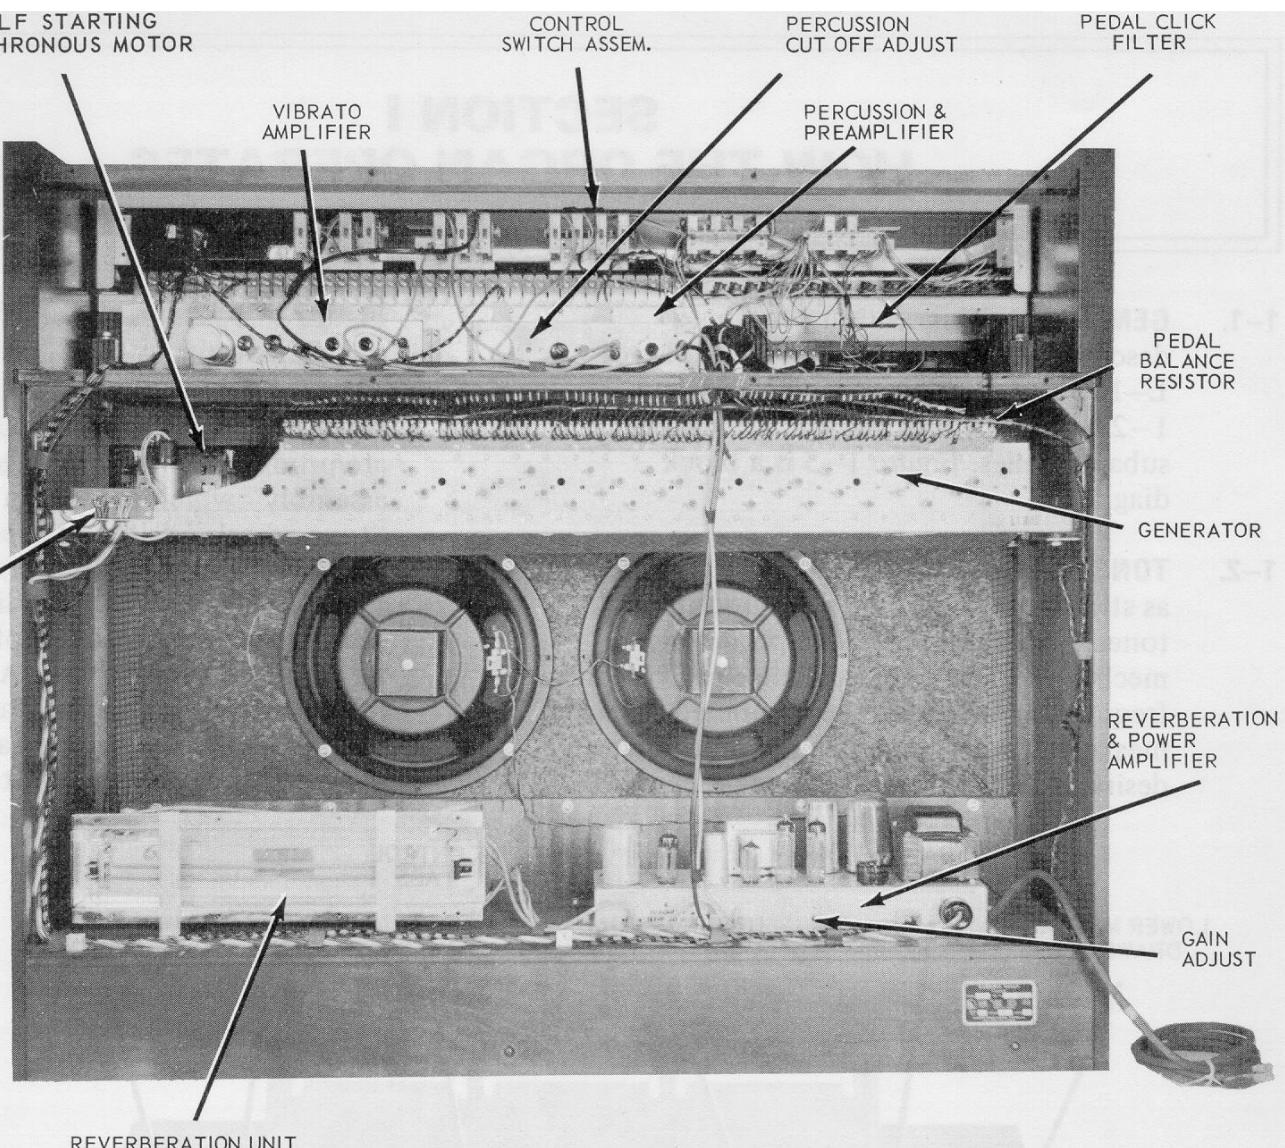

Figure 1-2. L-100 Console, Rear View
**I-3. MOTOR AND POWER SWITCH.** — The tone generator assembly, in which all tones of the organ originate, is driven at constant speed by a self starting synchronous motor, operating at 1800 RPM, located at the left side (rear view) of the console (Figure 1-2). (In 50 cycle organs, the generator speed is 1500 RPM).